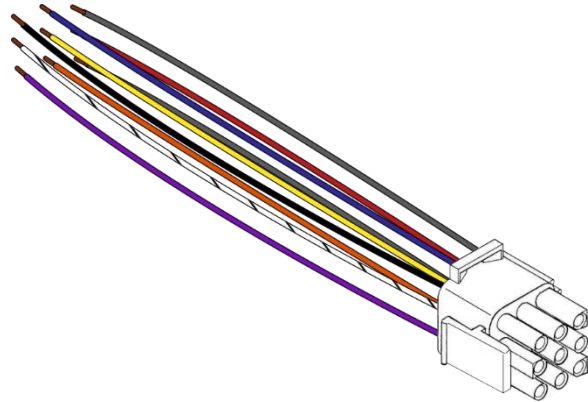

Figure 3 - Provided 9-Pin Wire Harness
- 1x 9-pin wire harness (*Figure 3*)
Original displays may have a plug-in connector (*Figure 3*) connecting the display to the manufacturer wiring harness. EasyTouch RV comes with a 2-pin plug preinstalled. Original displays wired with both plugs can simply unplug the original and plug in the EasyTouch RV display. Skip to the next section or continue on for direct wired systems if only one or neither plug is used.
Others may be built with the display wired directly to the manufacturer's wire harness (that goes to the A/C control box and furnace) with wire nuts or similar. These systems will require the provided harness (*Figure 3*) to be wired into that harness. If the 2-pin plug is not already used then you must cut off the EasyTouch RV preinstalled plug and use the bare wires. *Table 3* shows how the EasyTouch RV wires will interface with the existing wires. Fill in the manufacturer wire color column of the chart (along with a picture saved elsewhere) to have a recorded reference as to which OEM wire goes where.